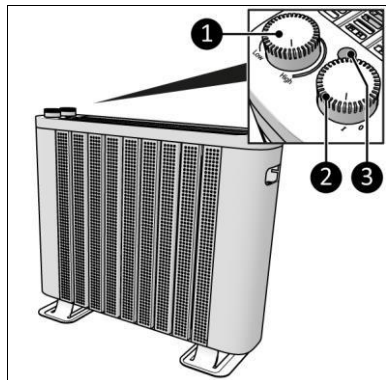

Figure 6
1. Turn the ON/OFF knob to the ON position (Figure 6, pos. 2).
2. The light indicator (Figure 6, pos. 3) starts to flash.
3. Turn the thermostat knob to the High setting (Figure 6, pos. 1).